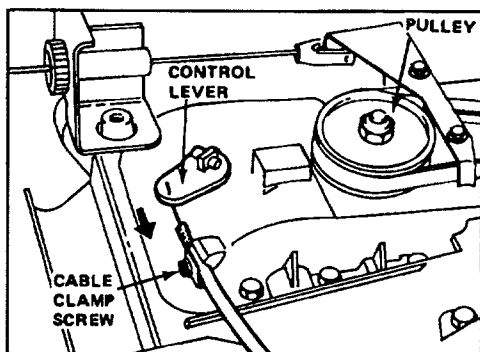

Figure 26
3. ADJUSTMENT (Fig. 26) — Loosen cable clamp screw until cable conduit slides. Push transmission control lever toward cable clamp screw and hold lever in place. Pull cable to remove slack and tighten clamp screw.
4. CHECK ADJUSTMENT — Assure ground speed control is in "N" and pull mower backward. Pulley (Fig. 26) should not rotate. If pulley does rotate, readjust for neutral: refer to step 3.
1. Stop engine and disconnect wire harness from battery terminal (Fig. 26).